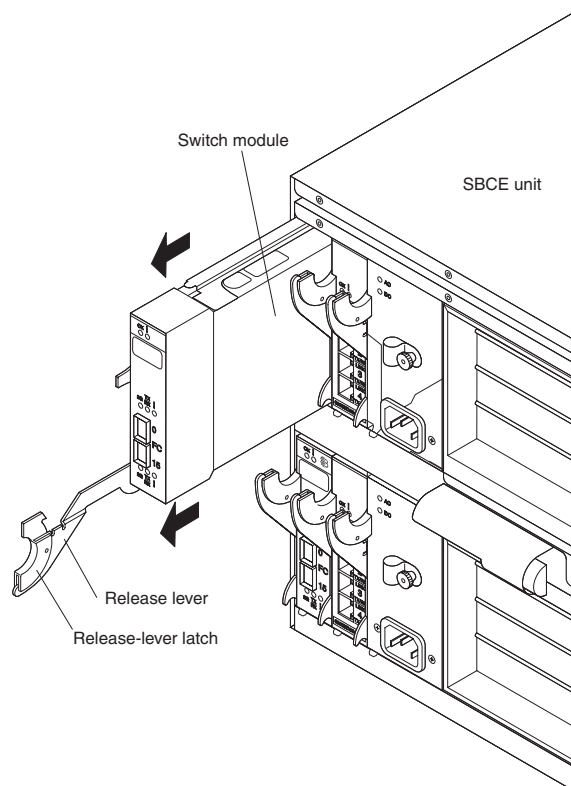

Figure 7. Removing a switch module.
5. Pull the release latch toward the bottom of the switch module, as shown in Figure 7. The module moves out of the bay approximately 0.6 cm (0.25 inch).